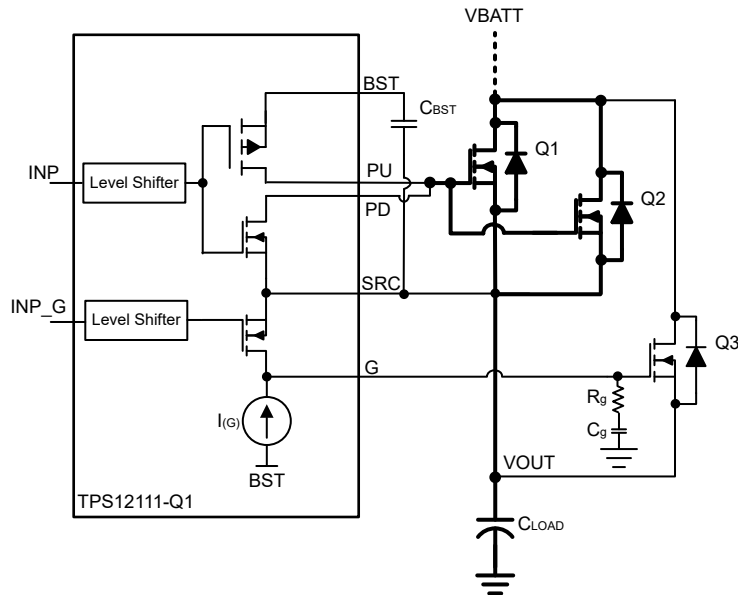

図 9-7. Capacitor Charging Using Gate Slew Rate Control of Precharge FET
The TPS12111-Q1 integrates precharge gate driver (G) with a dedicated control input (INP_G). This feature can be used to drive a separate FET that can be used to precharge the capacitive load. 図 9-7 shows the precharge FET implementation for capacitive load charging using TPS12111-Q1. An external capacitor C_g reduces the gate turn-ON slew rate and controls the inrush current.